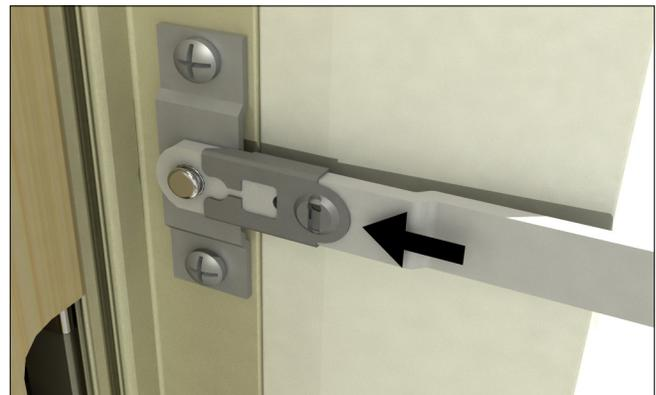

Figure 13 Attach the limiter arm to the frame bracket.
- Attach the limiter arm to the frame bracket by engaging the slider piece with the stud. See figure 13.